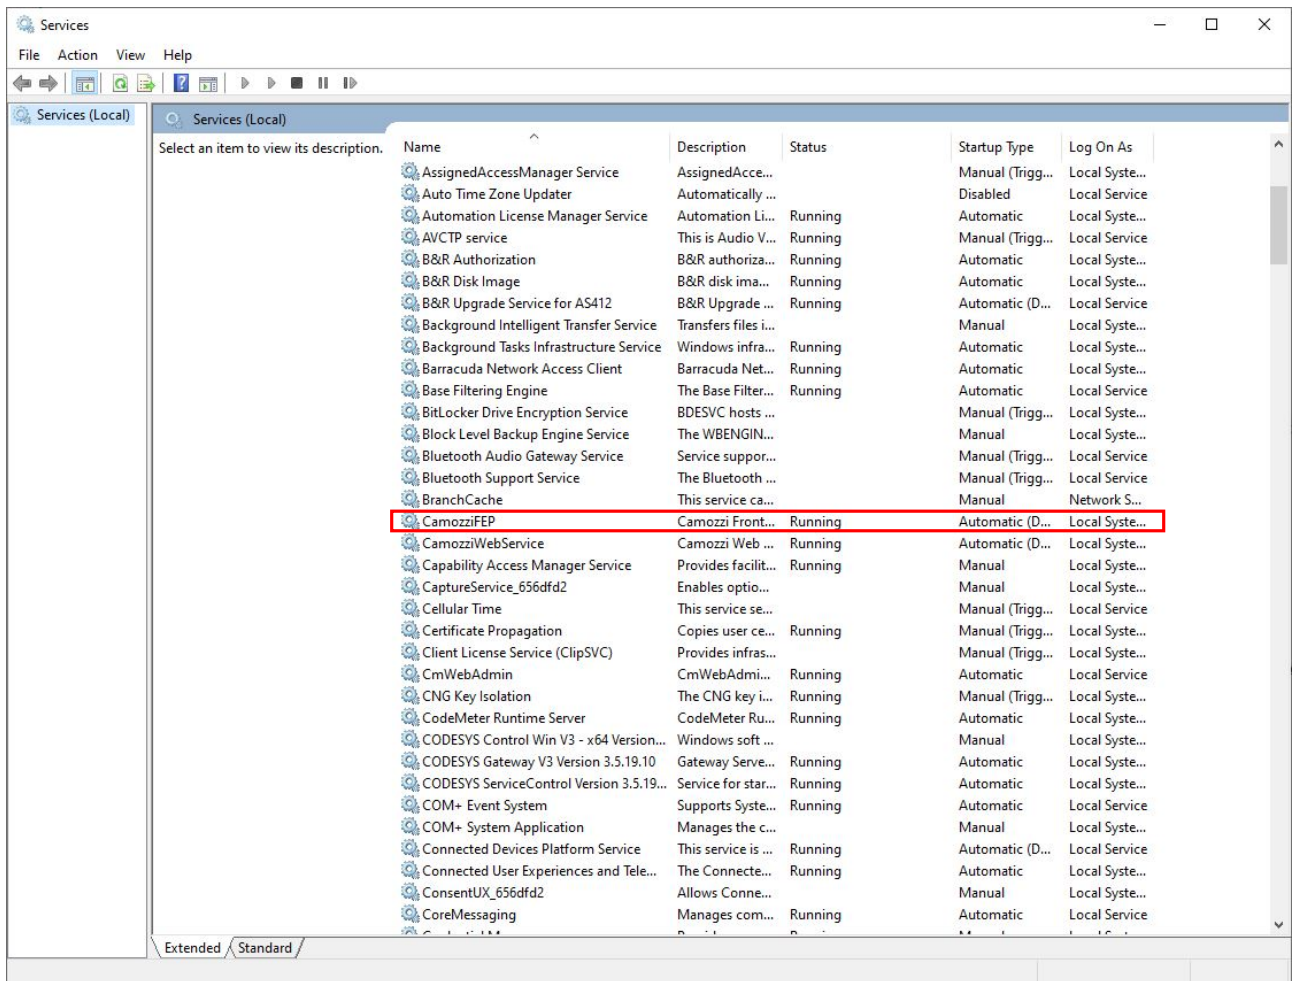

Figure 8.4: CamozziFEP Service
6. Access the services window and verify that the "CamoZZiFEP" status is running (Figure 8.4).
- ❸ If the connection in the "Tcp Connections" section is not visible, access the services window and verify that the "CamozziFEP" status is running (Figure 8.4).
❷ FEP: If the connection is not present, access the services window and verify that the "CamoZZiFEP" status is running (Figure 8.4).